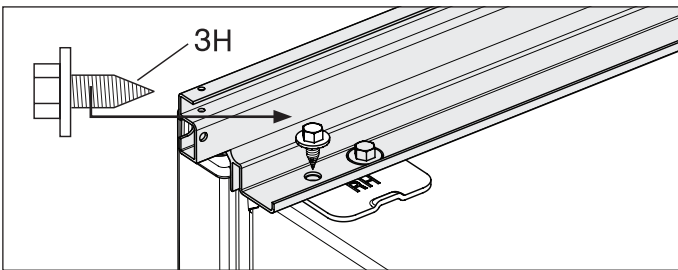

Figure 11
9. a. Remove outer hinge screw common on both sides for a dual installation, (for a single installation this screw is removed in Step 6. Align the top trim and attach with a 3/8" socket. Repeat for opposite side. (See Figure 11).